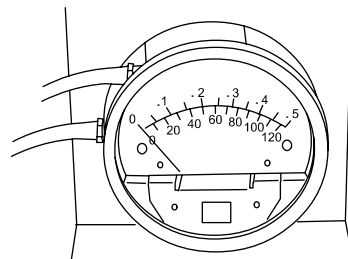

Fig. 22 — Magnehelic Gage
2. Before taking the reading, make sure that the Magnehelic gage is level and at 0. See Fig. 22.